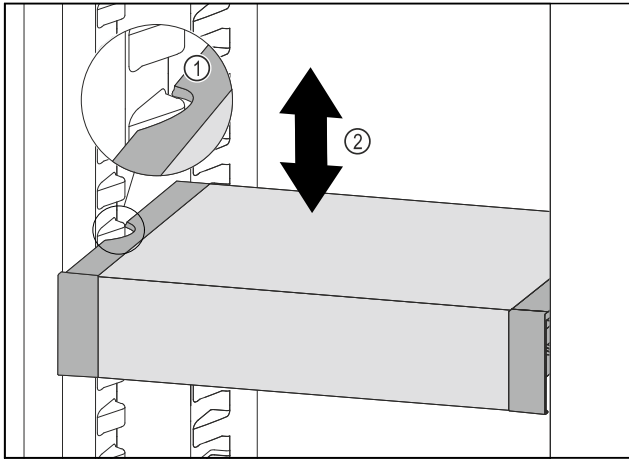

Fig. 116
- ▶ Pull VarioSafe forwards until the recesses in the side of the VarioSafe are at the level of the support rib in the refrigerator compartment. Fig. 116 (1)
- ▶ Move VarioSafe up or down in the refrigerator compartment until the desired height is reached. Fig. 116 (2)